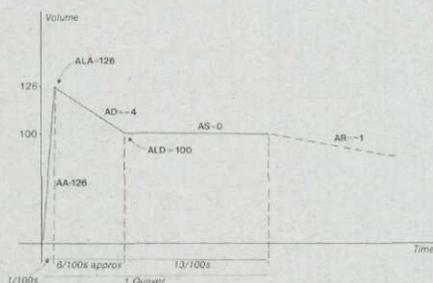
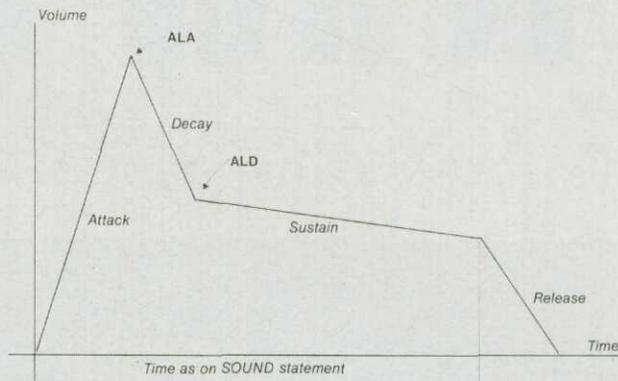

Figure 5. Percussive amplitude envelope given by ENVELOPE 1, 0, 0, 0, 0, 0, 0, 0, 126, -4, 0, -1, 126, 100.
Figure 4. Amplitude waveform common to ENVELOPE statement.
Look at figure 4. This is an amplitude waveform common to the BBC ENVELOPE statement. It consists of 4 ranges marked attack (AA), decay (AD), sustain (AS), and release (AR), as well as two set points (ALA) –volume after attack ramp and ALD, –volume after decay ramp. The volume levels ALA and ALD are numbers between 0 and 126. To produce a useful envelope consideration has to be given to the type of instrument to be imitated. Look at figure 5 which is the amplitude envelope of a percussive piano-like instrument. Note the steep gradient of the attack ramp – giving the note bite, and the gentler slope of the decay, sustain, and release ramps, giving the fading sound of a piano note. The command to produce this is: